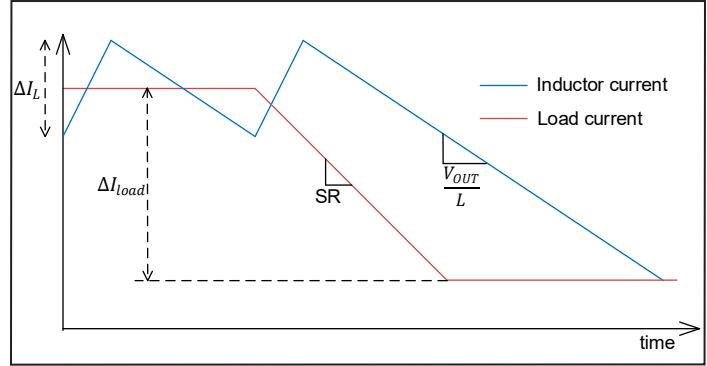

Figure 33 Inductor Current during Unloading
The transient overshoot happens when the load current is rapidly reduced (load throw off event). In this situation, the load slew rate (SR) magnitude is larger than the inductor current falling rate, as shown in Figure 33. In a COT controlled converter, the maximum overshoot in the output voltage can happen, when the load throw-off occurs immediately after start of a  $T_{ON}$  pulse. Accordingly, the required capacitance is as follows: